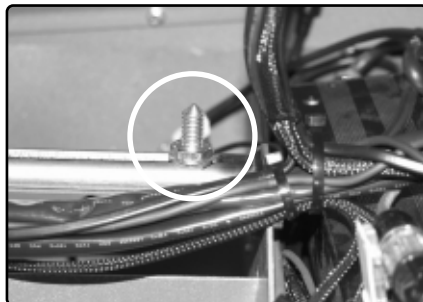

Fig. 8. A tapered screw is fitted to mark the position of the hole on the cover
10. Fit the tapered screw in the space for the seat support, use the nut and washer of the seat support, see Fig. 8.